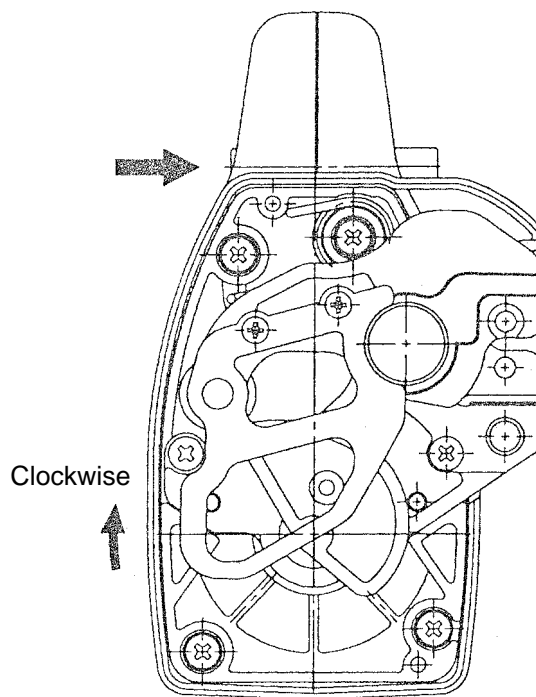

Fig. 42 Rotating direction of the Cam Shaft [55] when the Pushing Button [3] is set to the  position
- (i) Set the Pushing Button [3] to the  position and check that the Cam Shaft [55] rotates clockwise as shown in Fig. 42.
- (iii) Pressing the Pushing Button [3] to the  position, depress the trigger switch. Check that the Cam Shaft [55] rotates counterclockwise (in the reverse direction of Fig. 42).